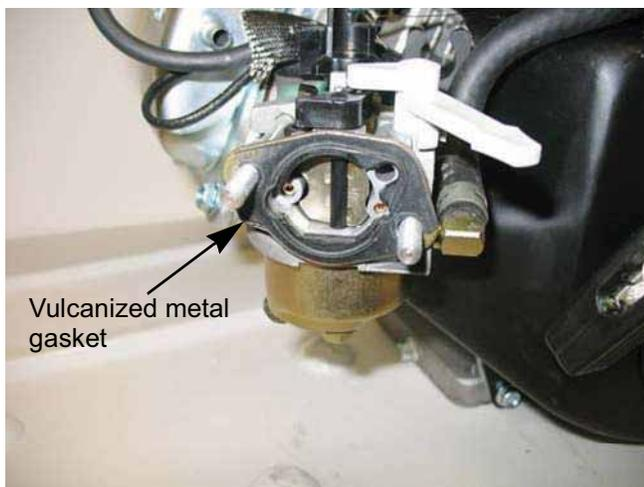

Figure 3.14
**NOTE:** The air intake gasket is a Vulcanized metal gasket. If the rubber is not ripped or deformed, it can be reused. See Figure 3.14.